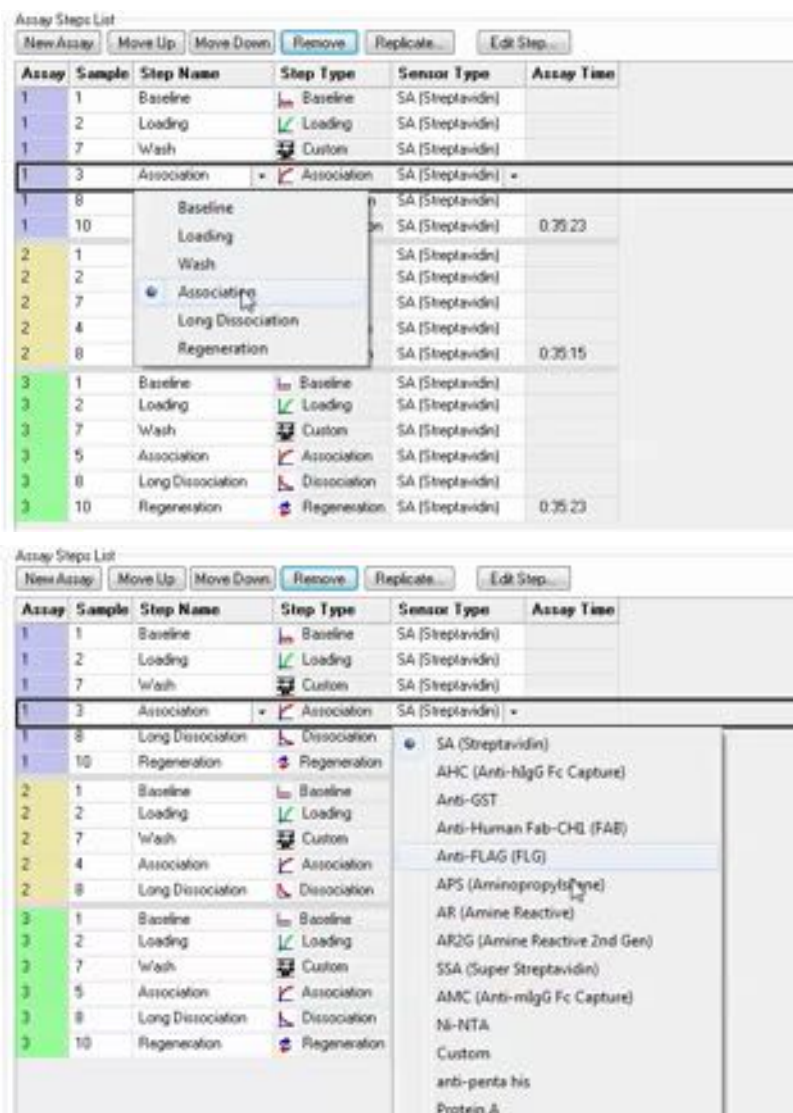

Figure 10-48: Editing an Assay Step Name (top) or Sensor Type (bottom) in the Assay Steps List
- To change the step type, click the **Step Name** arrow (▼) and select a step name from the drop-down list (Figure 10-48, top).
- To change the biosensor type, click the **Sensor Type** arrow (▼) for any step in the assay and select a sensor type from the drop-down list (Figure 10-48, bottom). The biosensor type will automatically update for every assay step.